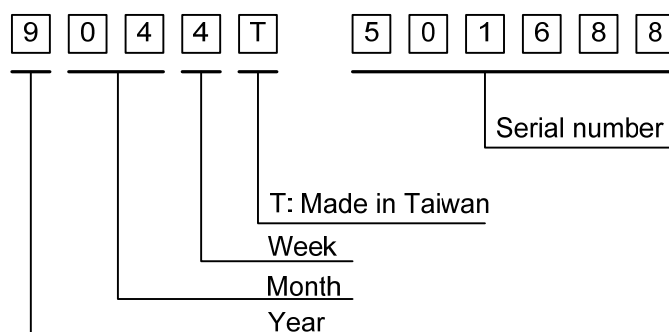

Fig. 13.1
- 1) The lot mark is showing in Fig.13.1. First 4 digits are used to represent production lot T represented made in Taiwan and the last 6 digits are the serial number.